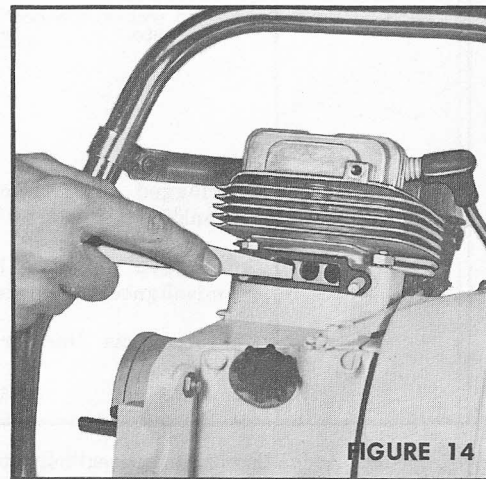

FIGURE 14
2. **EXHAUST PORTS:** Check for carbon deposits. Remove spark plug and locate the piston at its lowest point. Remove excess carbon with blunt edged tool, taking care not to burr or damage port area or cylinder sleeve (figure 14). Clean out carbon particles.